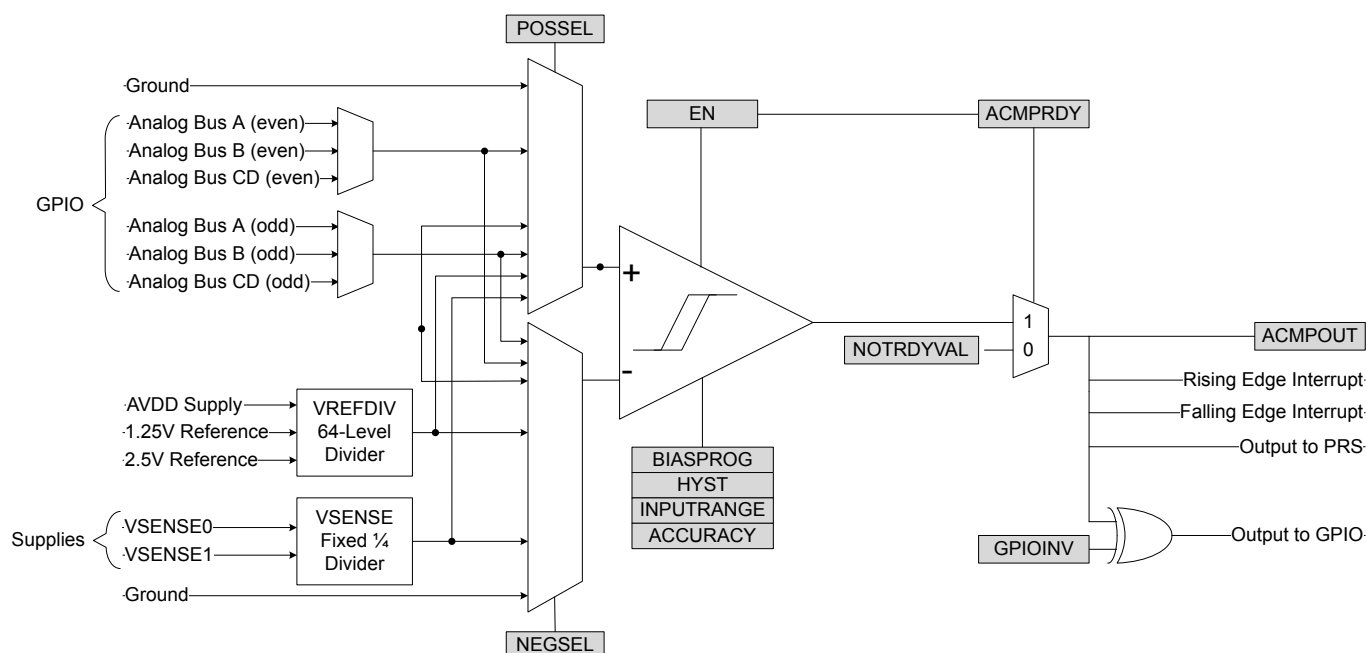

Figure 25.1. ACMP Overview
An overview of the ACMP is shown in Figure 25.1 ACMP Overview on page 826.
The ACMP can be used to monitor supply voltages. This is done by selecting VSENSE01DIV4(LP) or VSENSE11DIV4(LP) for either POSSEL or NEGSEL. Note that the input to the comparator core will be divided by 4, as illustrated in Figure 25.1 ACMP Overview on page 826. To reduce energy consumption, a sample/hold circuit can be used to periodically sample the power supplies. To enable this, select VSENSE01DIV4LP or VSENSE11DIV4LP in POSSEL / NEGSEL. Because the sample/hold feature uses the comparator in a non-continuous fashion, enabling this will increase response times and reduce the accuracy of the comparator. The connections between VSENSE0 and VSENSE1 to power supplies are summarized in the table below.